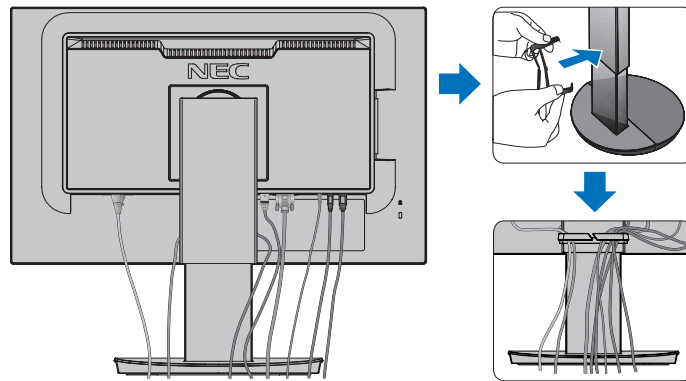

Figure 4
4. Place the cable holder onto the stand (**Figure 4**).